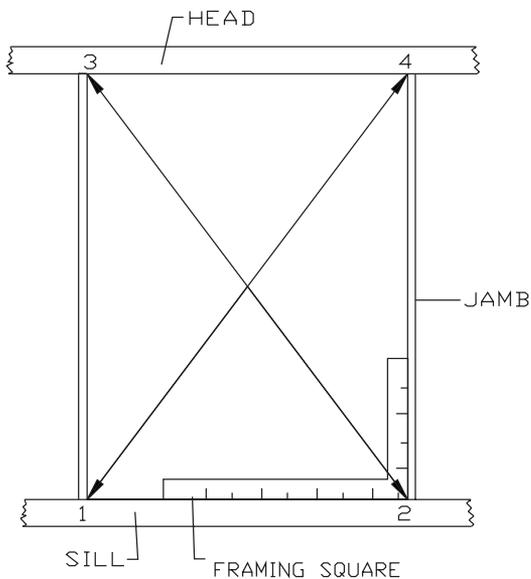
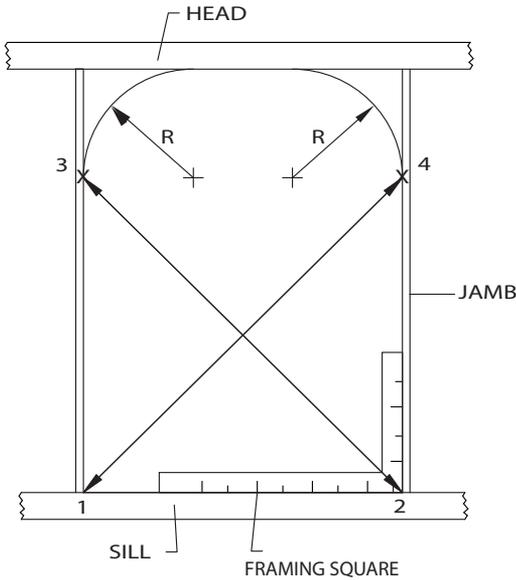

Figure 1
Figure 2
3. For square corner doors check the squareness with diagonal measurements (see Figure 1). The difference between 1 to 4 and 2 to 3 should not exceed $\frac{1}{4}$ ". If the R.O. does not conform to these requirements, it must be modified so that the sill is square to the floor within tolerance and the diagonals are within the $\frac{1}{4}$ " allowance.
4. For radius corner doors, check the squareness with diagonal measurements (see Figure 2). The difference between 1 to 4 and 2 to 3 should not exceed $\frac{1}{4}$ ". If the R.O. does not conform to these requirements, it must be modified so that the sill is square to the floor within tolerance and the diagonals are within the $\frac{1}{4}$ " allowance.
4. After the fasteners have been installed through the midpoint of the mounting flange at the hinges and lock sides, it is recommended that you re-check the door frame to be certain it is centered from side to side in the opening, and that the door frame is square. Measure opposite corners of the door frame in a manner similar to measuring the diagonals of the R.O. (see Figure 1) or the radius corner door (see Figure 2). It should be within $\frac{1}{8}$ ".